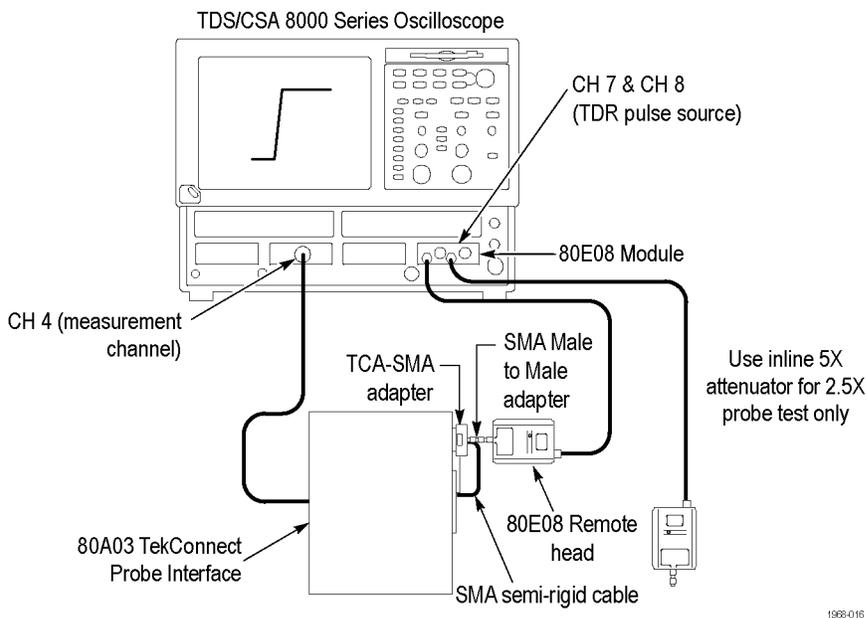

Figure 29: Test system rise time setup
1. Connect the test equipment as shown. (See Figure 29.)